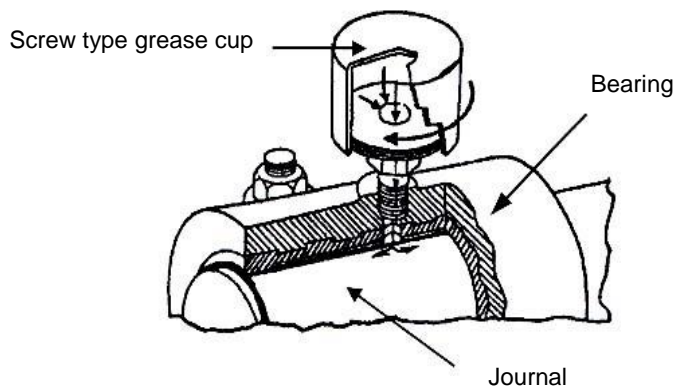

FIG 5.
- Another method of forcing grease into a grease cavity is by using a screw type grease cup (Fig 5). When the cup is filled with grease and screwed into the bottom part, the grease is forced into the cavity and lubricates the journal. (Shaft)